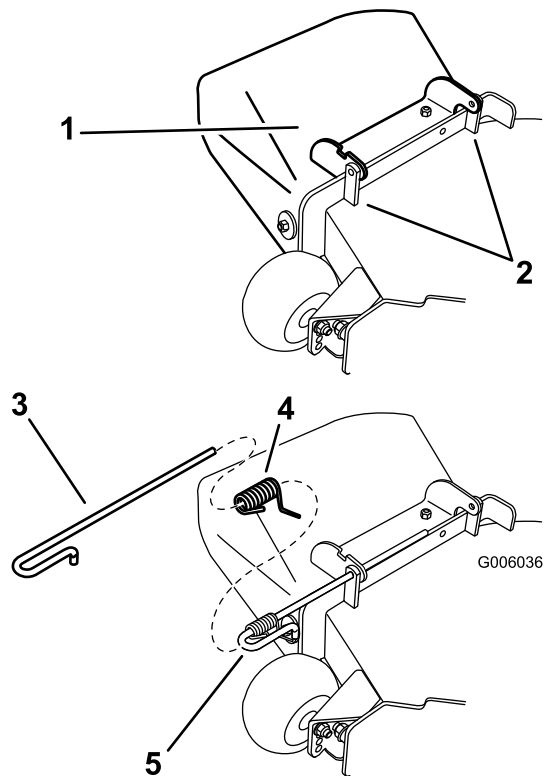

Figure 64
1. Disengage the spring from the notch in the deflector bracket and slide the rod out of the welded deck brackets, spring, and discharge deflector (Figure 64). Remove the damaged or worn discharge deflector.
2. Position the new discharge deflector assembly with the bracket ends between the welded brackets on the deck as shown in Figure 64.